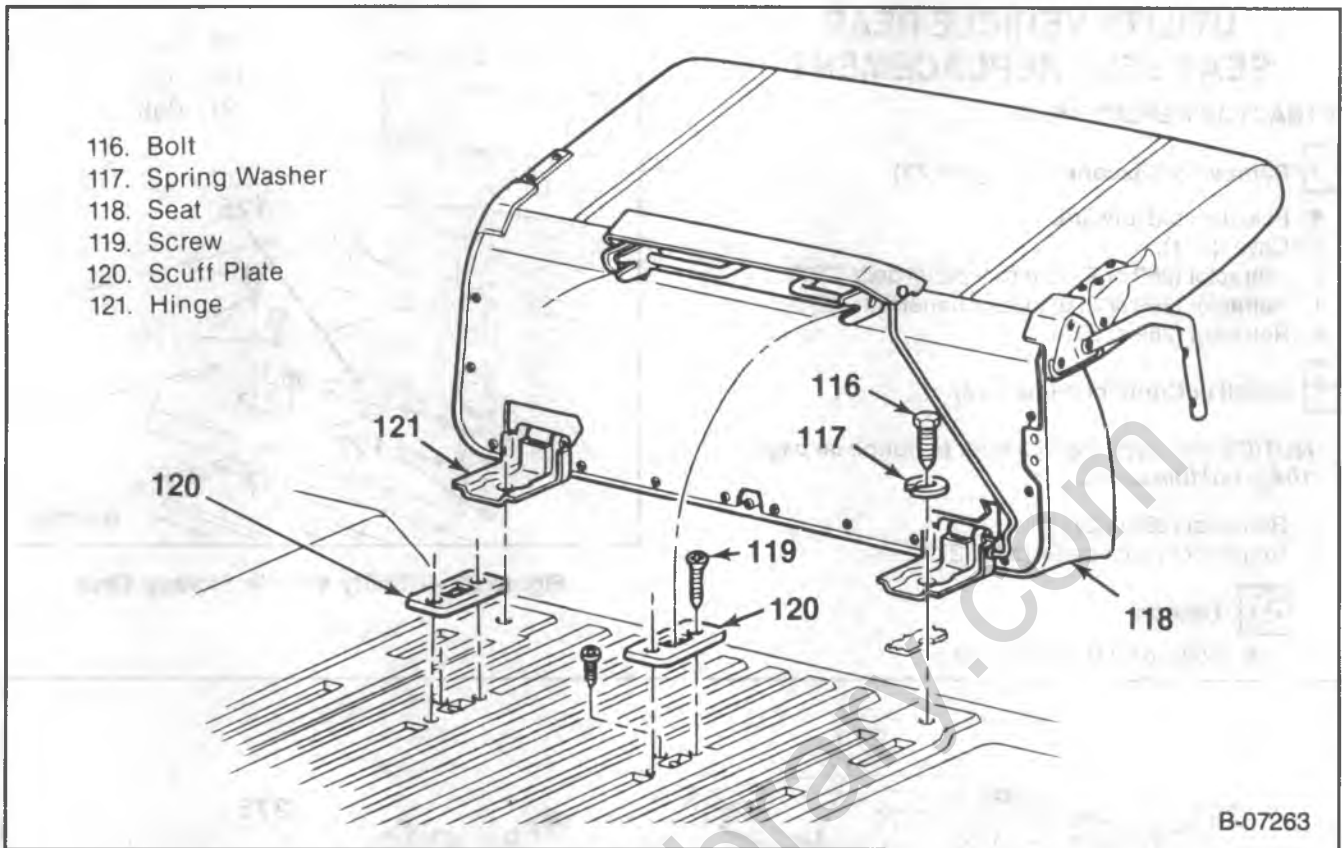

Figure 20 — Utility Vehicle Rear Seat Components
- ↔ **Remove or Disconnect (Figure 20)**
- 1. Hinge to floor bolt (116) and spring washer (117).
- ↔ **Install or Connect (Figure 20)**
- 2. Spring washer (117) and bolt (116).